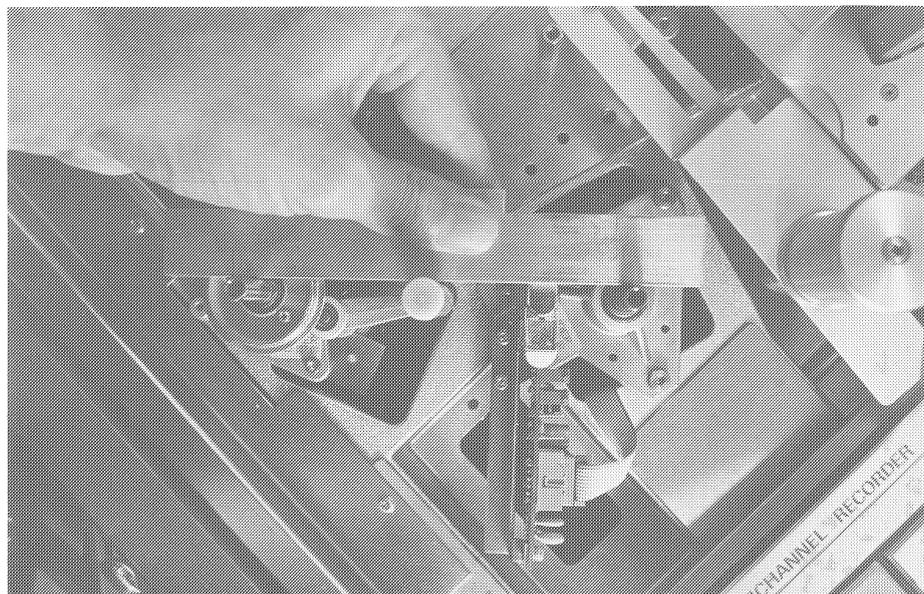

Fig. 18
- Remove the guide roller and use an alignment gauge 10.010.001.34 as shown in Figs. 18 and 19.